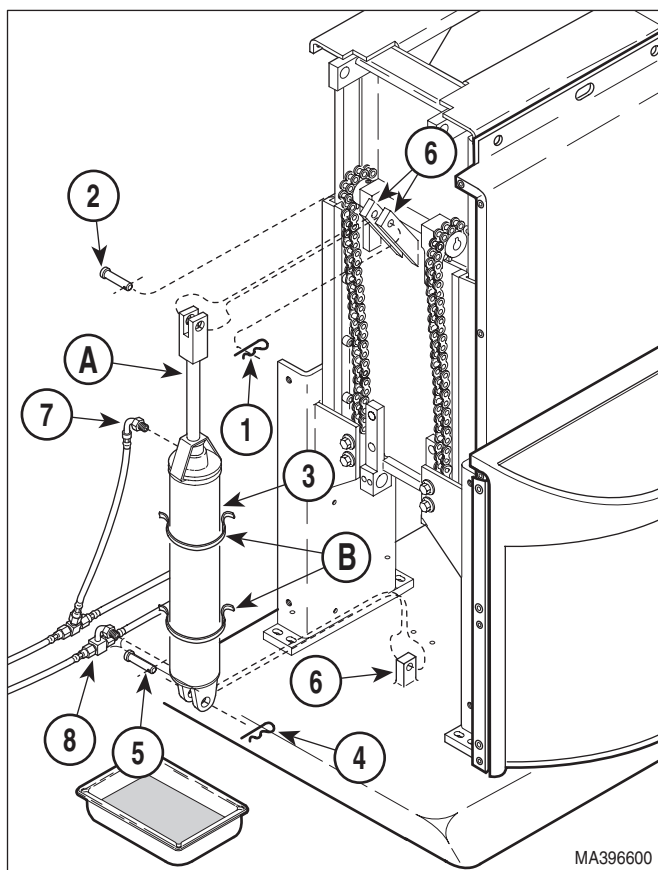

Figure 4-18. Base Cylinder Removal / Installation
Make sure table top is properly secured from lowering or tipping over when base cylinder is disconnected from table top. Clevis pin (2, Figure 4-18) should not have any weight on it if table top is supported properly. Failure to have table top properly secured could result in serious personal injury or death.
- (11) Remove hitch pin clip (1, Figure 4-18) and clevis pin (2) from rod end (A) of base cylinder (3).
- (1) Position base cylinder (3, Figure 4-18) on table.
- (2) Connect base tee (8) to base cylinder (3).
- (3) Connect hose assembly (7) to base cylinder (3).
- (4) Secure hose assembly (7) to base cylinder (3) with two cable ties (B).
- (5) Install base cylinder (3) on brackets (6) and secure with clevis pins (2 and 5) and hitch pin clips (1 and 4).